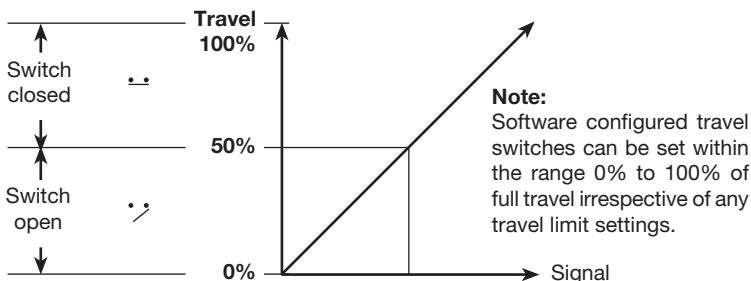

Fig. 44 TS1 Travel switch 1 (normally open)
**TS1** is normally open and **TS2** is normally closed. Switching action is set as a % of valve travel (refer to Figures 44 and 45).
Travel switch 1 (**TS1**) is normally open. External wiring should be made between terminals 1 (+) and 2 (-). The value set is a % of valve travel. At the set value the switch will close. The status of the switch will be shown on the LCD (refer to Figure 44).